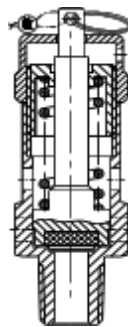

Figure 3-4 Safety valve
2) Touch "Menu" in the upper right corner of the main page to access the page shown in Figure 3-4. Touch "Homepage", "Running Data", "User Parameters", "Maintenance Parameters", "Protection Parameters", "AC Drive Parameters", "Manufacturer Parameters", "Timing Switch", "Alarms", and "Manufacturer Information" in sequence to view more details.